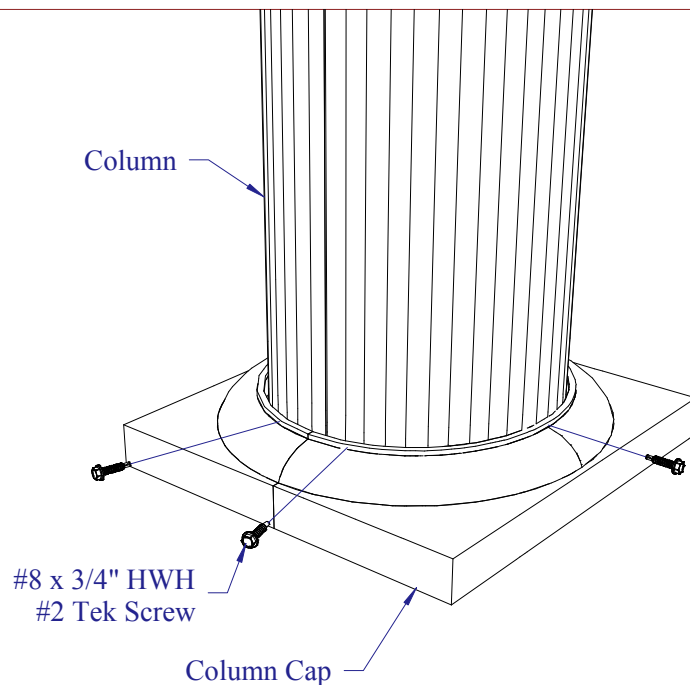

Fig. 4-9
- Attach the column cap to the column using (6) #8 x 3/4" HWH #2 Tek screws as shown (see Fig. 4-9).